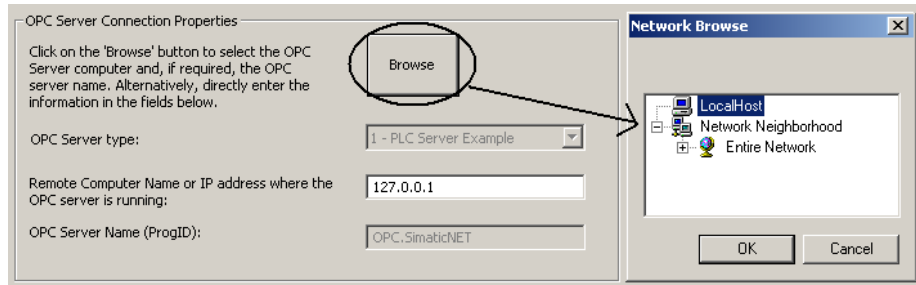

Fig 26 Selecting the OPC server
2. Click the button 'Browse' to show the server selection window (Fig 26).